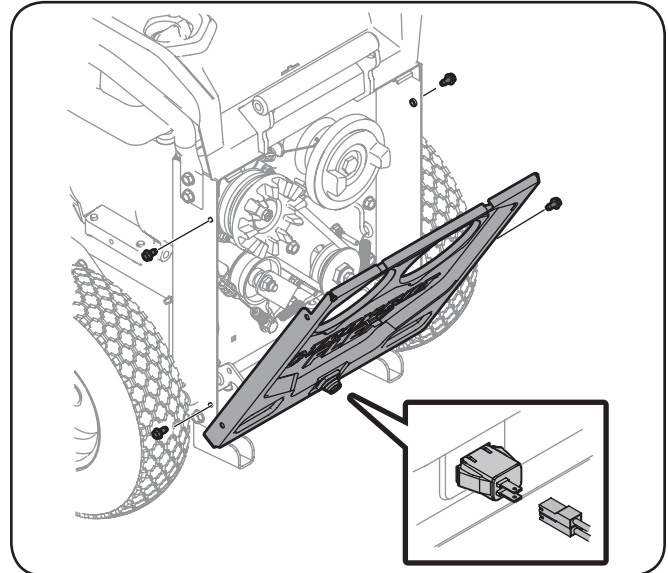

Figure 6-10
1. Remove the power base front cover by removing the four hex screws that secure it. Refer to Figure 6-10.
3. Unplug the wiring harness from the power base front cover by wiggling and pulling the harness connectors off of the safety switch on the power base front cover. See the inset in Figure 6-10.